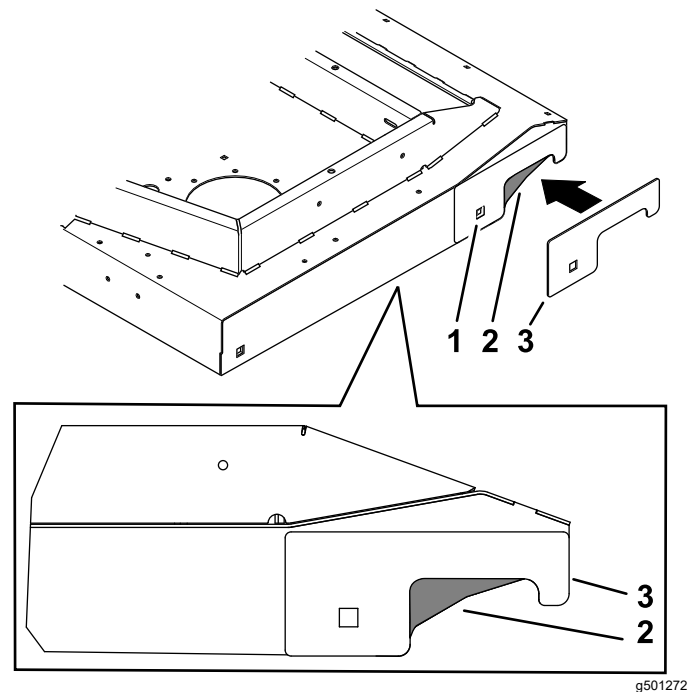

Figure 1
3. Align the template and install a carriage bolt (Figure 1).
4. Mark the area to be removed, remove the template, and remove the material from the cutting unit (Figure 1).